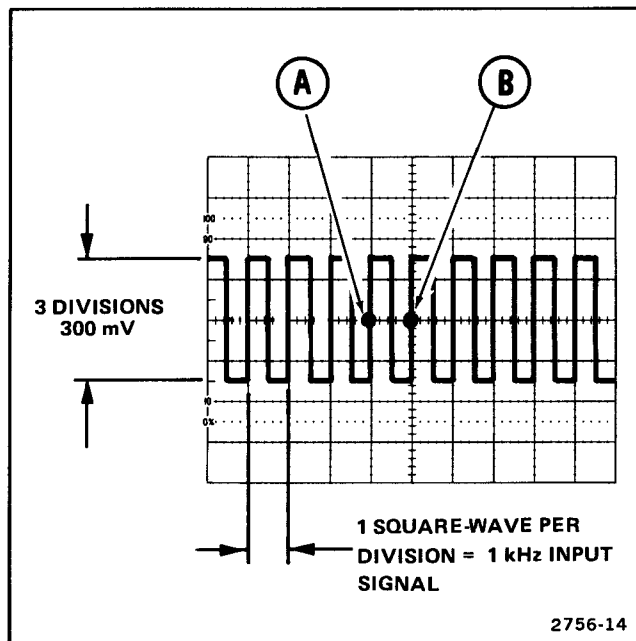

Figure 13. DM44 timing check.
4. Using the DELAY TIME POSITION control, move the reference point to a leading edge of the square wave (see Figure 13, Point A).
5. Using the DM44  $\Delta$  TIME control, move the time-measurement point to the leading edge of the next square wave (see Figure 13, Point B).